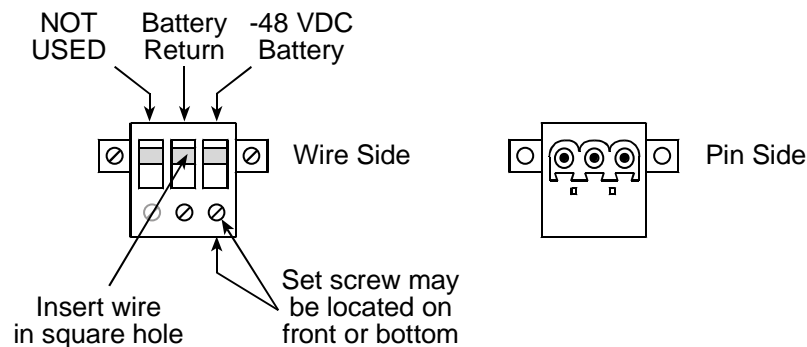

Figure 6-23. Power Connector Wiring
1. Open package containing 3-pin power connectors (2 ea.) (see Figure 6-23).
7. Orient the connector as shown in Figure 6-23 and loosen the right two set screws.
8. Insert the Battery Return and –48V VDC Battery wires into the appropriate square holes (see Figure 6-23), one at a time, tightening the set screws as you go.